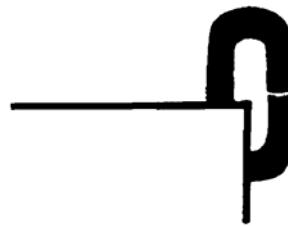

Figure 7
3. Loosen the link, reposition the link vertically at the edge of the vise with the level of the cut above the vise jaw (Figure 7).